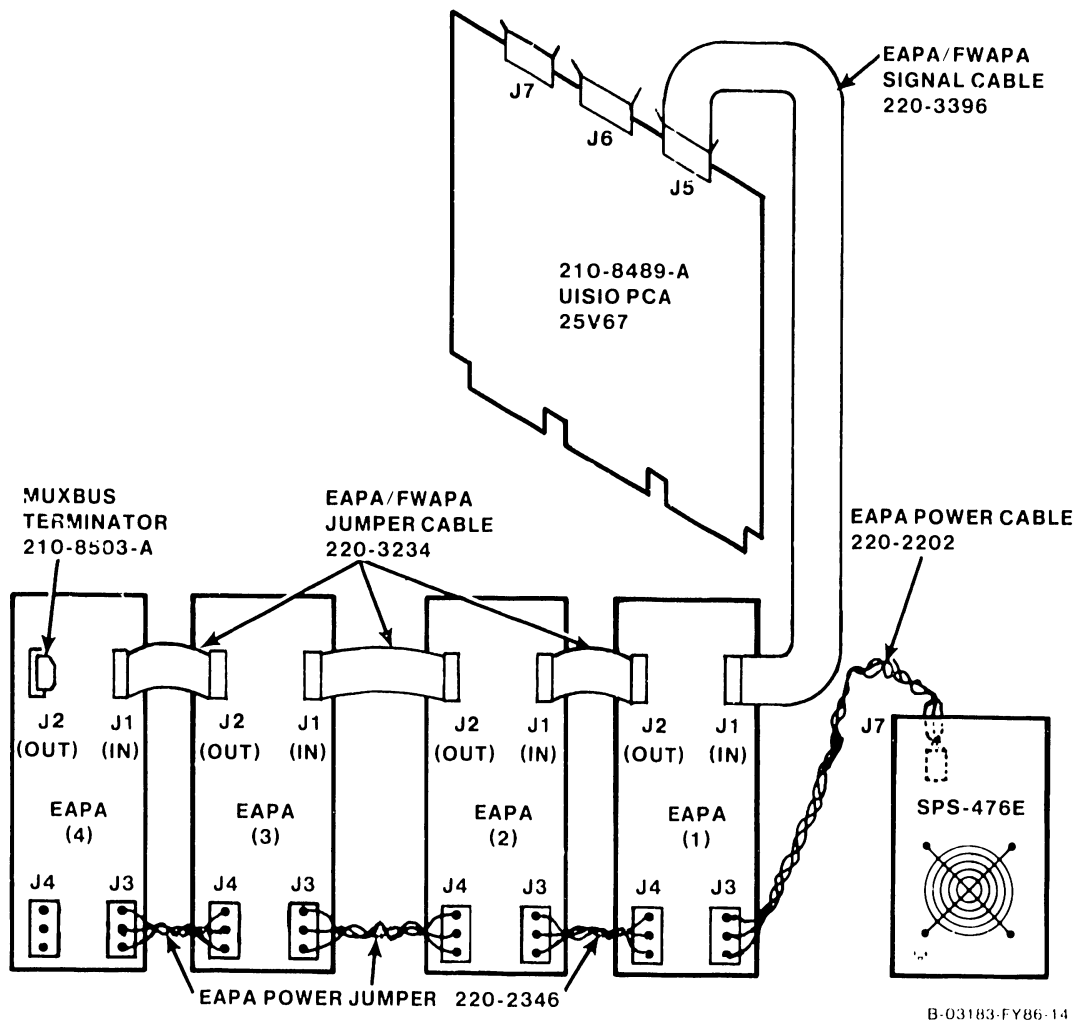

Figure C-7. EAPA Panels Internal Cabling Diagram
6. Install EAPA Power Cable (P/N 220-2202) to J3 of the first EAPA and connect the other end to Switching Power Supply connector J7 located on PCA 210-8611 (figure C-7).